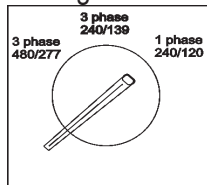

Figure 39. Voltage Selection Switch
- Check the voltage selection switch (Figure 39) is at the desired voltage.